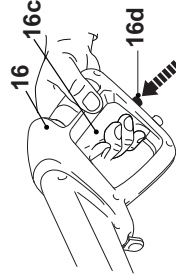

Fig. 27
4. Deactivate the trigger lock by pressing the deactivate button (16d) (Fig. 27).